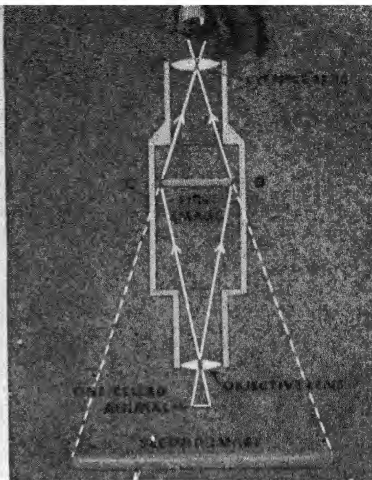

FIG. 382. How light rays travel through a compound microscope
In compound microscopes there are two lenses. Light from the object passes through the *objective lens* and comes to a focus at CD (Figure 382). There is no screen there, but if one were put in, you could see the image just as you did in Experiment 38. The eyepiece then magnifies this image just as it does in the simple microscope.
2. Make a drawing showing how a compound microscope makes a pin look larger. Use Figure 382 as a guide to follow.